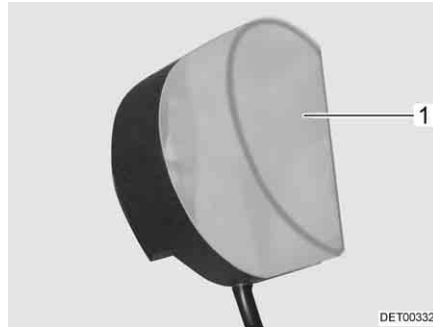

Fig. 191 Wardrobe light
- Press the light covering (Fig. 191,1) lightly together and remove it.